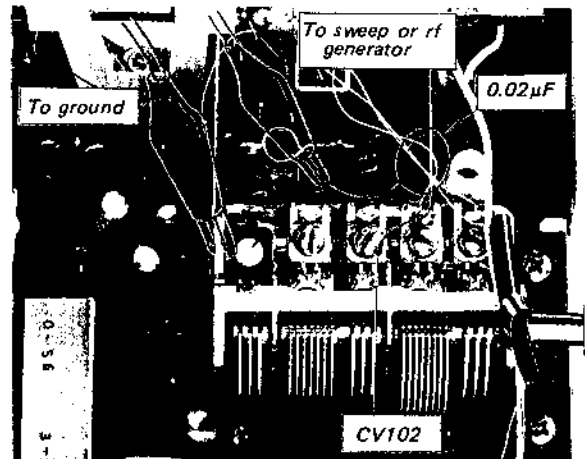

Fig. 3-4. 10.7 MHz signal injection
- Connect the output cable of the generator across CV102 on the tuner and MPX board. Use alligator clips and make the connection through a 0.02 μF coupling capacitor as shown in Fig. 3-4.